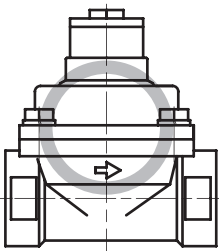
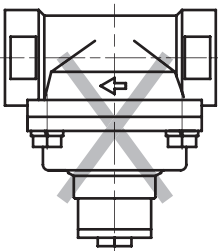

Figure 1
Figure 2
- As shown in figure 1, make sure the direction of the fluid is the same as the one that indicated on the body before installation.
- Product needs to be installed vertically with the indicator facing upward as shown in figure 1. It is forbidden to be installed obliquely or vertically downwards as shown in figure 2 and 3.